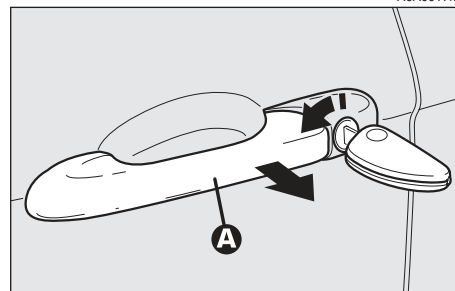

fig. 9
- To open the driver's door turn the key clockwise and then remove the key and pull the handle (**A-fig. 9**).